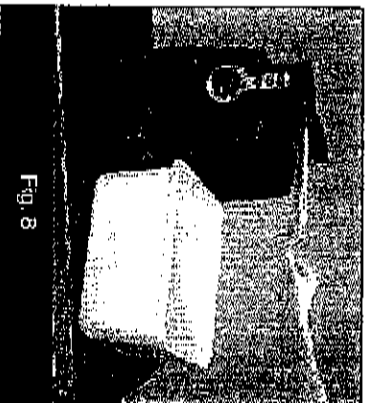

Fig. 8
- Rotate the faucet outward (Fig. 8).